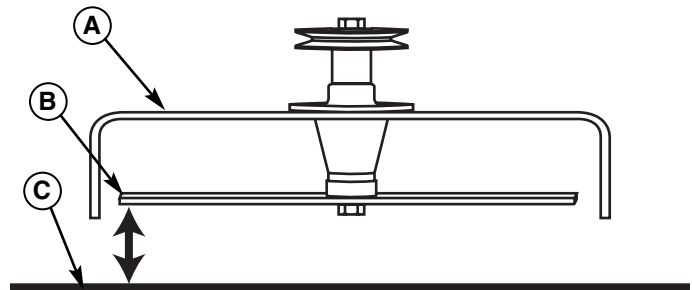

Figure 45. Measure Blade Tips to Ground
5. Measure the distance between the tips of the blade and the ground (Figures 45 & 46). If there is more than 1/8" (3mm) difference between the measurements on each side, proceed to step 6. If the difference is 1/8" (3mm) or less, proceed to Front To Back Leveling.